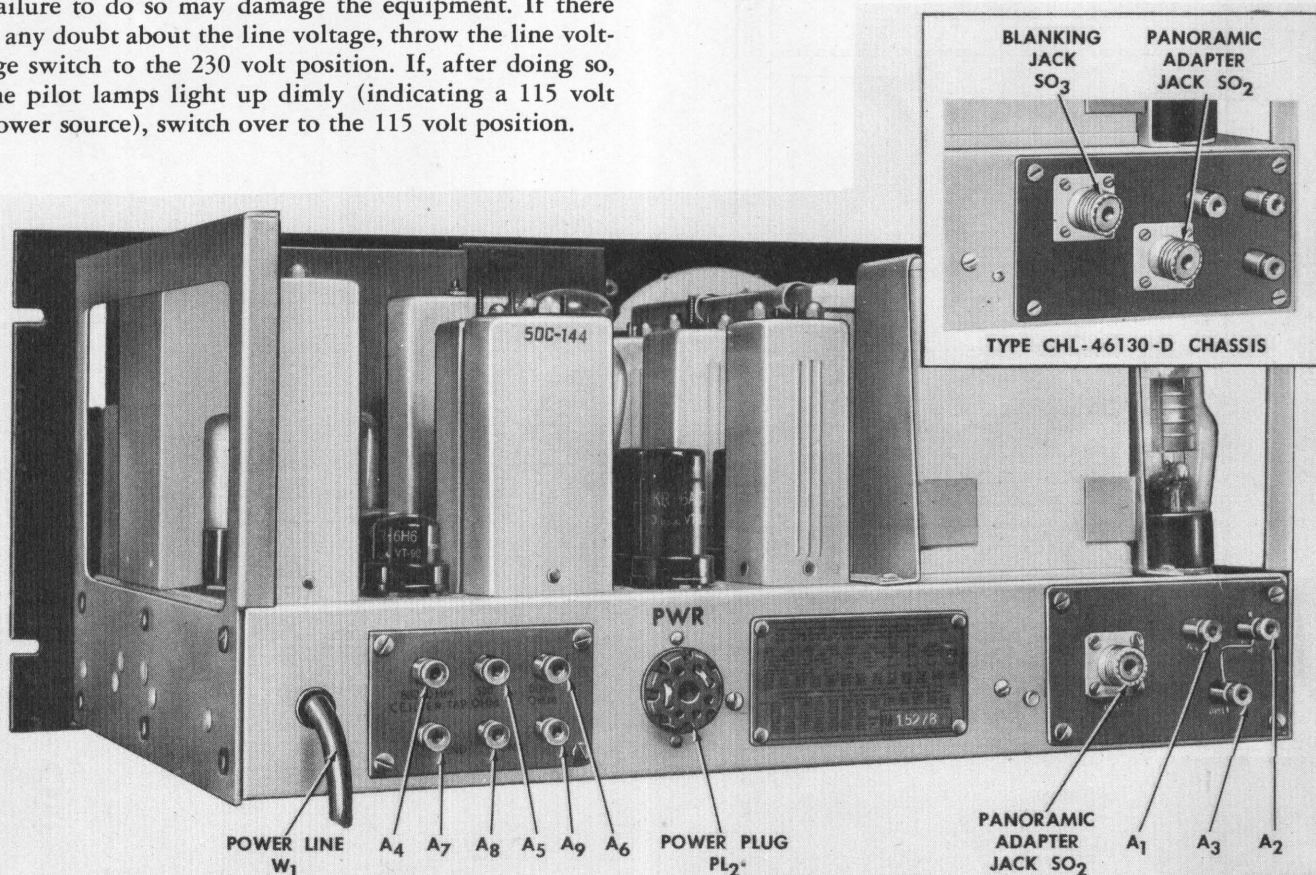

Figure 3-2: Type CHL-46130-C Chassis, Rear View.
(1) HEADSET OPERATION.—The headset jack marked "PHONES," located on the front panel, provides a 600 ohm balanced output. The center tap of the 600 ohm headset winding is grounded externally at the speaker output terminal board TS1 by a jumper wire across the terminal marked 600 C.T. If it is desirable to disconnect the center tap from ground, remove the jumper from the terminal board TS1. (Refer to Figure 3-2.)